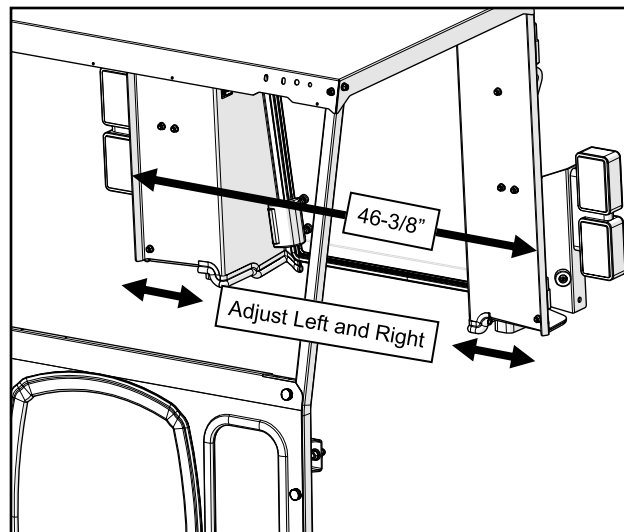

Fig. 9.1 (Align Legs Left and Right)
9.1 Adjust the bottom of the rear legs side to side to get the outer surfaces matched up with the sides of the rear fender. See figure 9.1. The outer flanges of the legs should be about 46-3/8" apart, outside to outside.